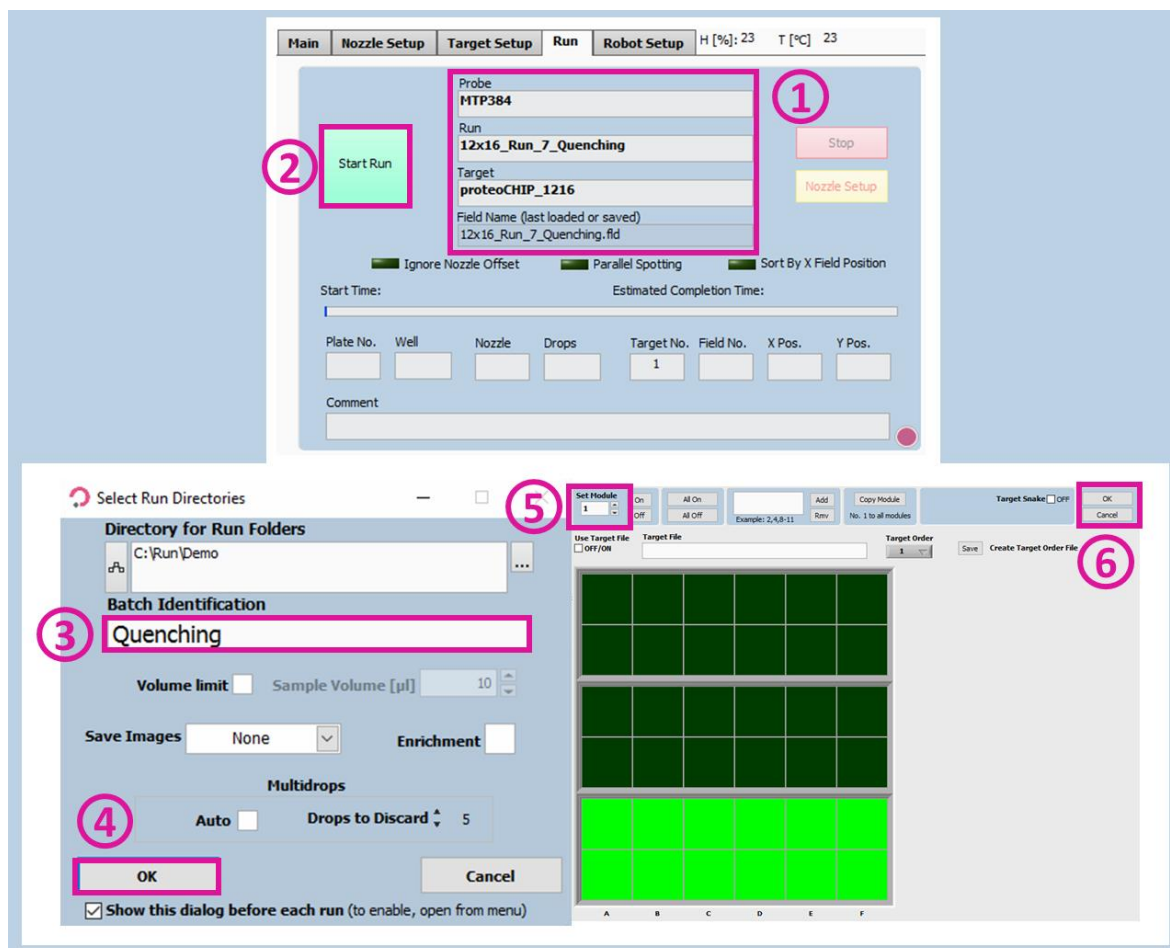

Figure 48. Start the Run for Quenching
Check that you selected the right Probe, Run and Target in the Run window (Figure 48 ①). Start the run (Figure 48 ②) and select the number of proteoCHiPs that you want to dispense in (Figure 48 ⑤). To start the run, click OK (Figure 48 ⑥).